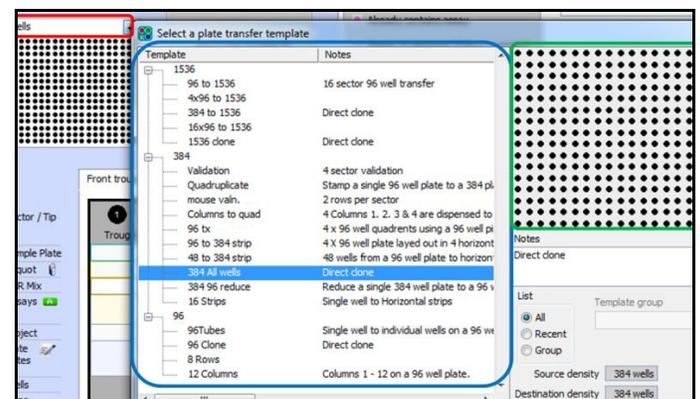

Figure 22
6. Select dispense template (Figure 22).